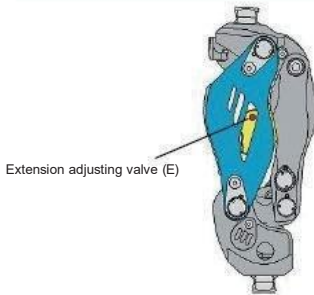
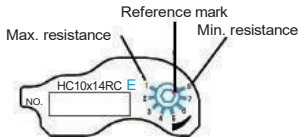

Fig. 13 Location of the Extension Adjusting Valve
Fig. 14 Graduated Scale of the Extension Adjusting Valve
If terminal impact occurs at the end of the swing phase, adjust the extension resistance. As shown in Fig. 13, the extension adjusting valve (E) is located on the left when viewed from the user. As shown in Fig. 14, the scale is graduated from "1" to "8". "1" corresponds to the highest hydraulic resistance, and "8" corresponds to the lowest.